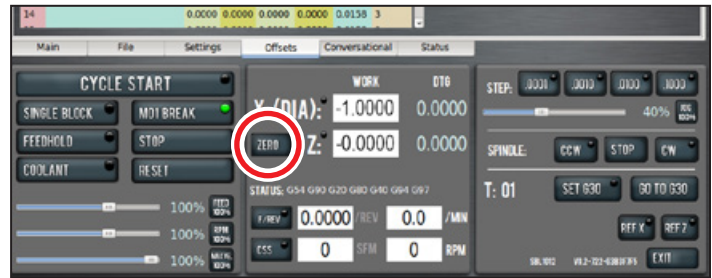

Figure 4.8
2. When the tool holder has just touched the end of the work, click the Zero button next to the Z digital read out (DRO) to set the current work offset Z position to zero (see **Figure 4.8**).